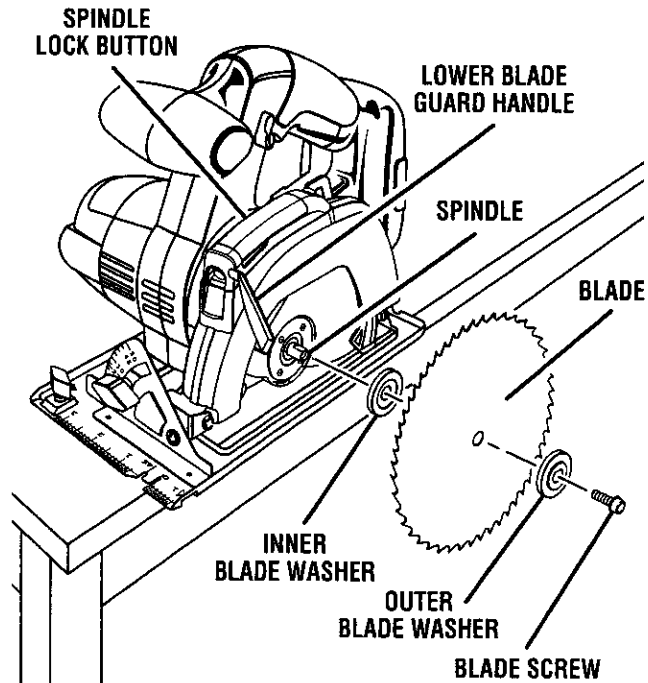

Fig. 2
See Figure 2.
- NOTE:** The saw teeth point upward at the front of saw as shown in figure 2.